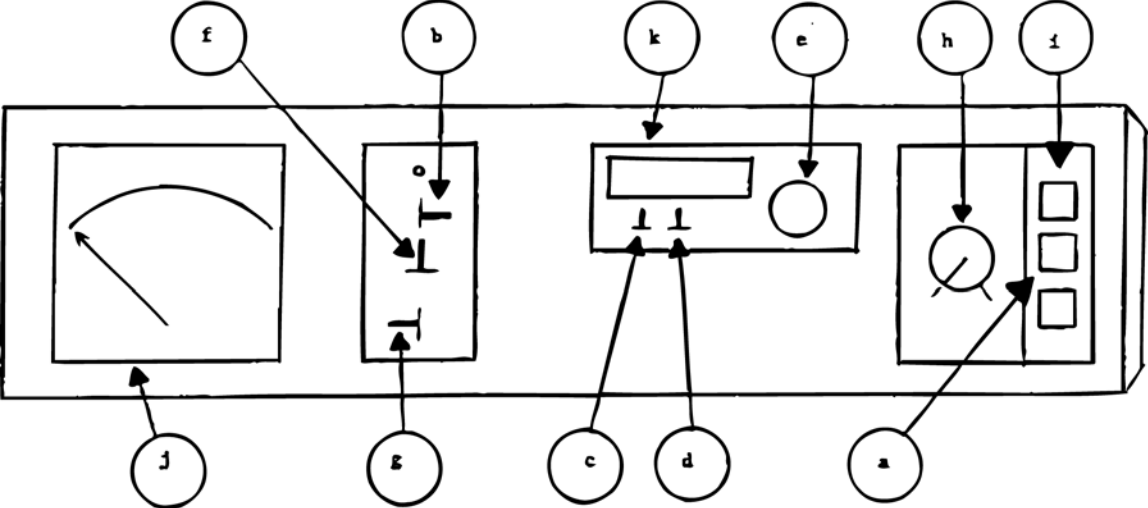

Figure I.11
- 4) Locate the "STOP" (Figure I.11-item a) button on the control panel. Push it. The machine is capable of exerting very large forces (over 20,000 lbs) and doesn't care whether your hand or a delicate piece of testing equipment is in the way. At any time during the lab that anyone suspects the possibility of damage to anyone or anything push the "STOP" button without a second thought. Push it now again for practice. Both partners.
- 5) Turn power on (Figure I.11-item b).
- 6) Turn on the digital load readout (Figure I.11-item c).
- 7) Set "load/lock" switch under the load readout to "load" (Figure I.11-item d).
- 9) Check the number displayed on the load readout (Figure I.11-item k). Adjust the zero knob (Figure I.11-item e) until the display reads zero. Caution: do this only when the actual load is clearly zero; i.e., when neither the truss nor anything else is touching the test fixture. The digital readout should show the load in pounds; on machines 5 and 6, check that the "English/Metric" switch (not shown) is set to "English."
- 13) The "tension/compression" switch (Figure I.11-item f) determines whether the crosshead will move up (tension) or down (compression).
- 14) There are two ways to control the crosshead speed: The “low/high” switch (Figure I.5-item g) and the speed control knob (Figure I.11-item h). All loading of specimens should be done with the speed switch set to “low”. The high speed range is intended only for coarse positioning of the crosshead between tests.
- 16) Start the testing machine, by first setting the speed control knob to zero, and then pressing the “test” button (Figure I.11-item i). This prevents abrupt and unexpected movement of the crosshead.
- 2) Check that the truss is not under any load. You should be able to see a small air gap between the truss and the test fixture on the crosshead. If in doubt, put the 'tension/compression' switch in the 'tension' (up) position and raise the crosshead slightly. Zero the load readout (Figure I.11-item 3), and take zero-load readings for all strain gauges.